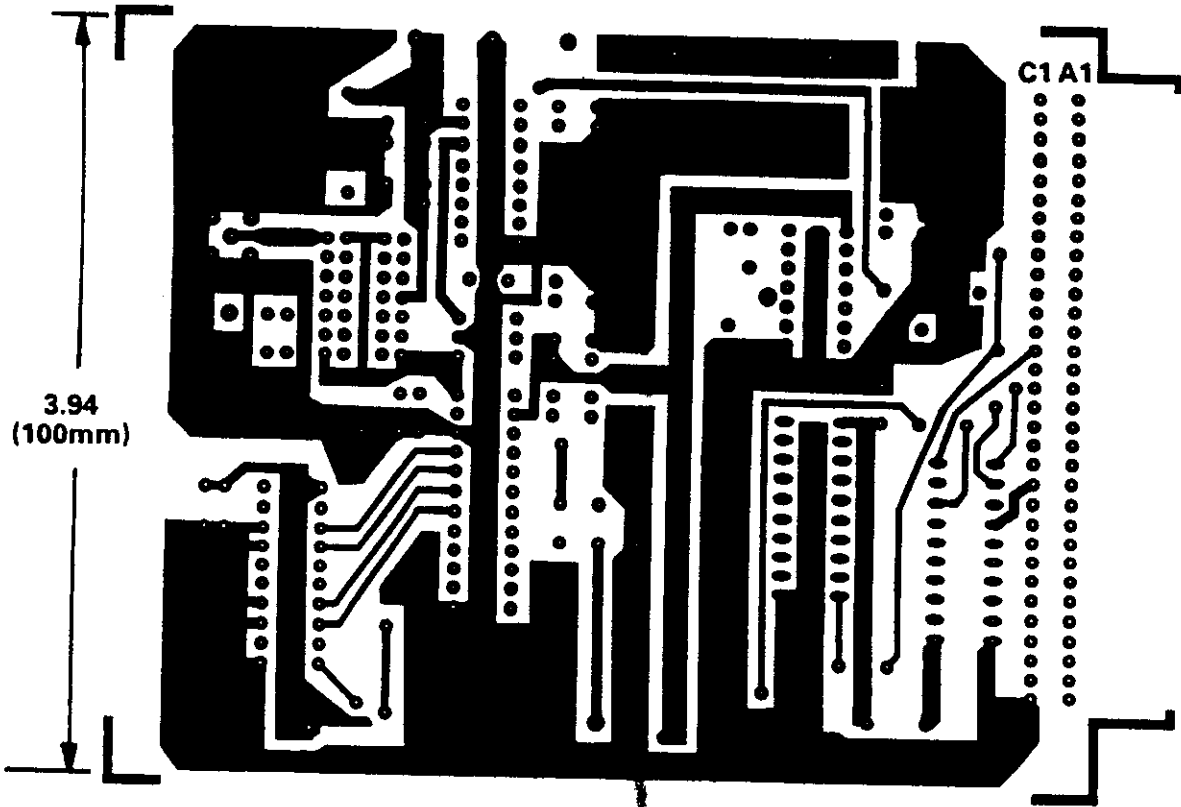

Figure 29. PCB Component Side Layout for Figure 24
1. THE CORRESPONDING PCB LAYOUT OF FIGURES 29 AND 30 CAN ACCOMMODATE EITHER THE AD585, THE AD681 OR THE AD683 SHA. (SEE FIGURES 25 AND 26.)